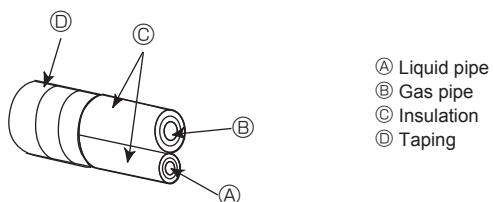

Fig. 4-1
Ⓐ (Fig. 4-1)
Ⓑ (Fig. 4-1)
4.2. Connecting pipes (Fig. 4-1, Fig. 4-2)
When commercially available copper pipes are used, insulate both the liquid and gas pipes separately with commercially available insulation materials (heat-resistant to 100°C, 212°F or more, thickness of 12 mm, 1/2 inch or more). (Fig. 4-1)